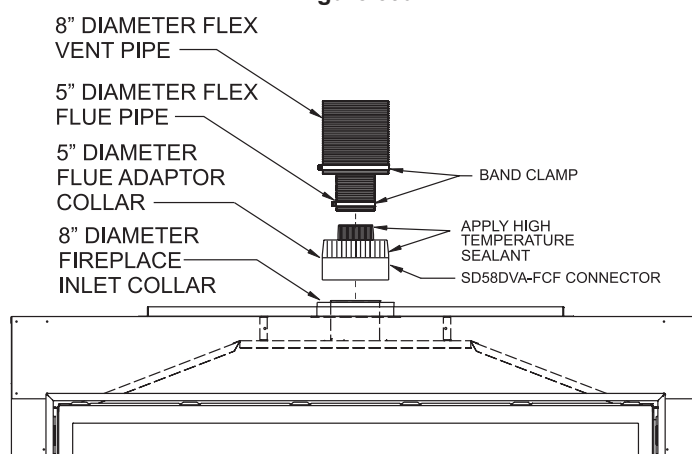

Figure 59b
NOTE: For installation of Flex Venting on Fireplaces that have Flue and Inlet Vent collars flush with top of the fireplace, it is recommended that an SD58DVA-FCF Connector be used. When using the SD58DVA-FCF Flex Vent Connector, it will require removing (or cutting off) the 5" diameter adapter from the DVVK5F Flex Flue. **See Step 10b and Figure 59b.**
- 10b. If using the SD58DVA-FCF Vent Connector, apply sealant to the inside of the 5" diameter flex flue pipe, then connect the flex flue to the 5" flue takeoff on the SD58DVA-FCF Connector. Use a 5" diameter band clamp and a minimum of two screws to secure the flex flue to the SD58DVA-FCF Connector. **See Figure 59b.**